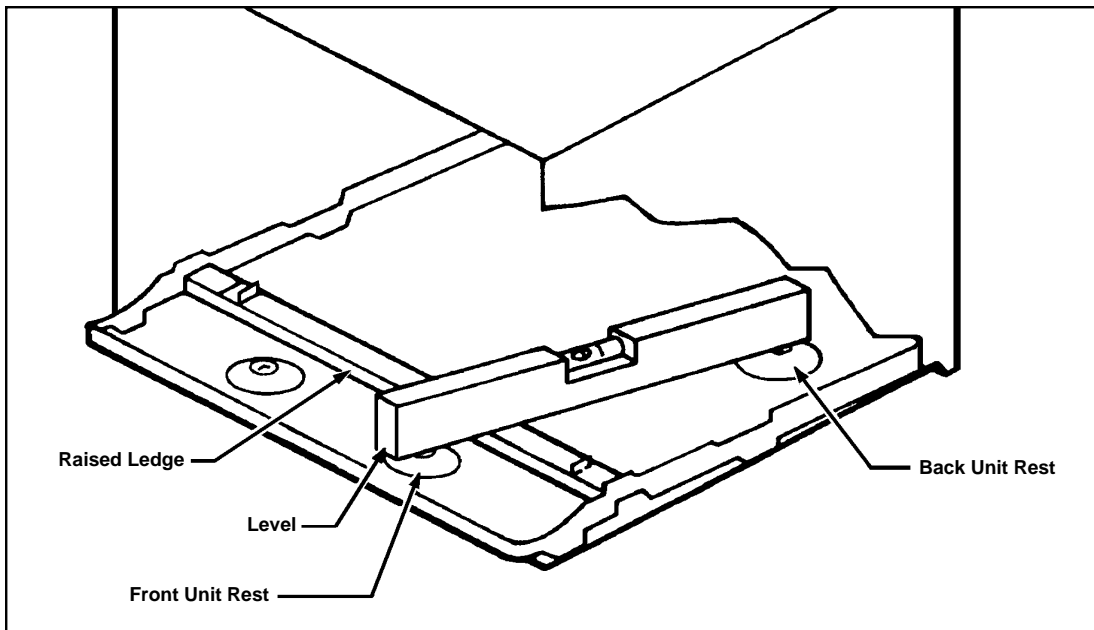

Figure 8
- A. Adjustable SUBBASE (SB) or other unit support must be provided for panel wall type construction and for walls less than 8" thick.
- B. A minimum distance of 1" must be allowed on all sides of the unit to adjacent wall and floor. Where the subbase is required, the minimum distance from the floor to the sleeve must be 3 ½". To minimize chances of short cycling of the compressor, the minimum clearance between the ceiling and the top of the unit should be 24". (See Figure 8).
- STEP 4** The WSC SLEEVE must also be installed with a downward tilt toward the outside of the building. If a level is placed so that it rests on the FRONT and BACK UNIT REST as shown in Figure 8, a properly installed unit provides a $\frac{1}{2}$ " bubble slope to the outside of the building.